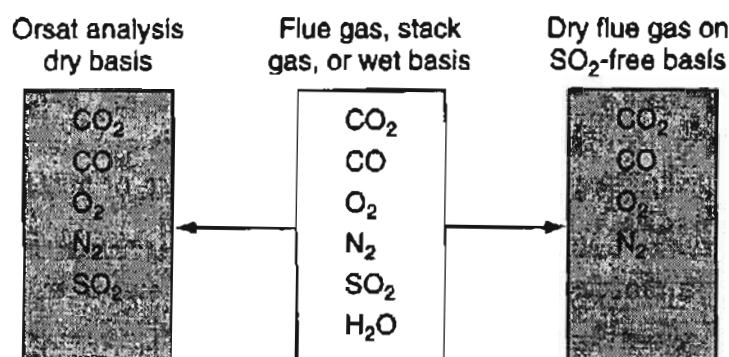

Figure 10.4 Comparison of a gas analysis on different bases.
- b. **Orsat analysis or dry basis**—all the gases resulting from a combustion process *not including the water vapor*. (Orsat analysis refers to a type of gas analysis apparatus in which the volumes of the respective gases are measured over and in equilibrium with water; hence each component is saturated with water vapor. The net result of the analysis is to eliminate water as a component that is measured.) Look at Figure 10.4. To convert from one analysis to another, you have to adjust the percentages of the components to the desired basis as explained in Chapter 2.